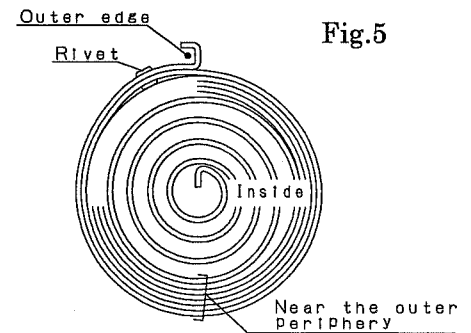

Fig.5
Reassemble the plate (15) to drum (13), then contact to the store. (see Fig.5)
- 8) Remove spring (14) from drum (13).
Never remove Spring (14) from Drum (13) when Spring is broken near the outer periphery or the rivet of Spring is broken (see Fig.5).